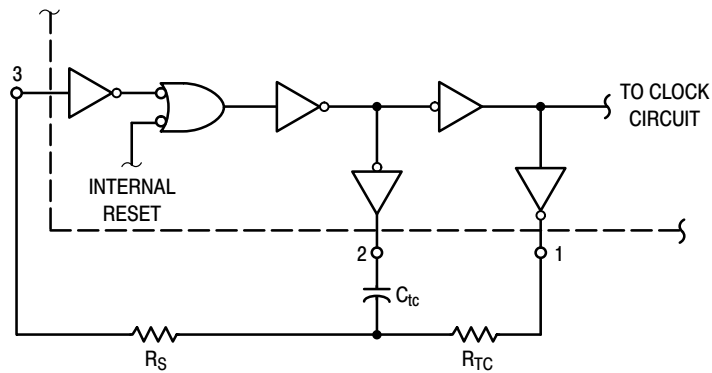

Figure 3. Oscillator Circuit Using RC Configuration
6. When using the on chip oscillator the total supply current (in μAdc) becomes: I_T = I_D + 2 C_{1c} V_{DD} f × 10⁻³ where I_D is in μA, C_{1c} is in pF, V_{DD} in Volts DC, and f in kHz. (see Fig. 3) Dissipation during power-on with automatic reset enabled is typically 50 μA @ V_{DD} = 10 Vdc.
The RC oscillator as shown in Figure 3 will oscillate with a frequency determined by the external RC network i.e.,